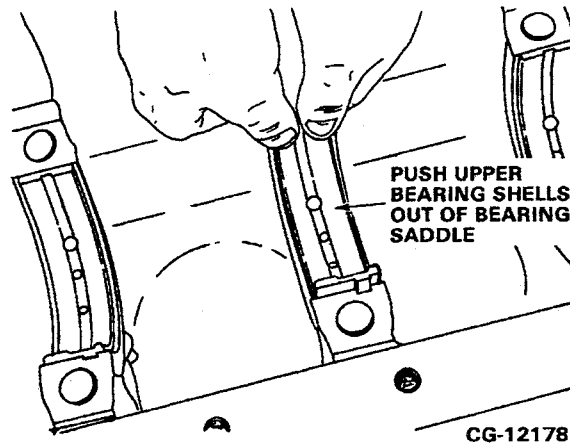

**Figure 7.45. Remove Crankshaft**
- 17. Remove the crankshaft from the crankcase using ZTOEM-4125 lifting sling, as shown in **Figure 7.45**.